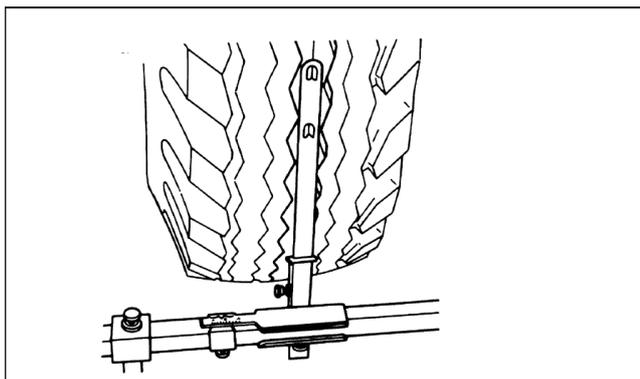

Fig. 6.3
6. Place the trammel bar at the rear of the tires. Adjust the pointer to line up with the scribe lines on the tires. Lock the pointers in place. The sliding scale still must be set on ZERO. Fig. 6.3